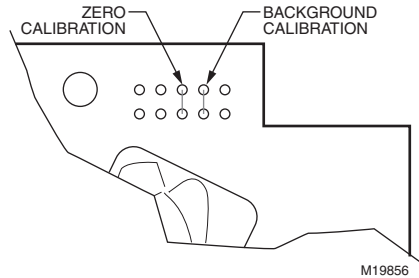

Fig. 7. C7632 calibration pads.
5. Execute calibration by shorting the proper two soldering pads (see Fig. 7).
3. Execute calibration by shorting the proper two soldering pads (see Fig. 7).